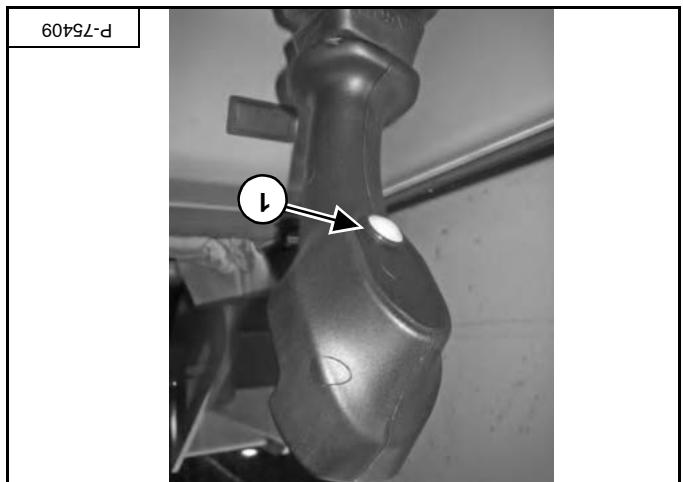

Figure OI-77
**NOTE:** Tilt the Bob-Tach into the ground [Figure OI-77] slowly or damage to the trench cleaner shoe may occur.
Press the button (item 1) [Figure OI-77] to start trencher chain rotation.